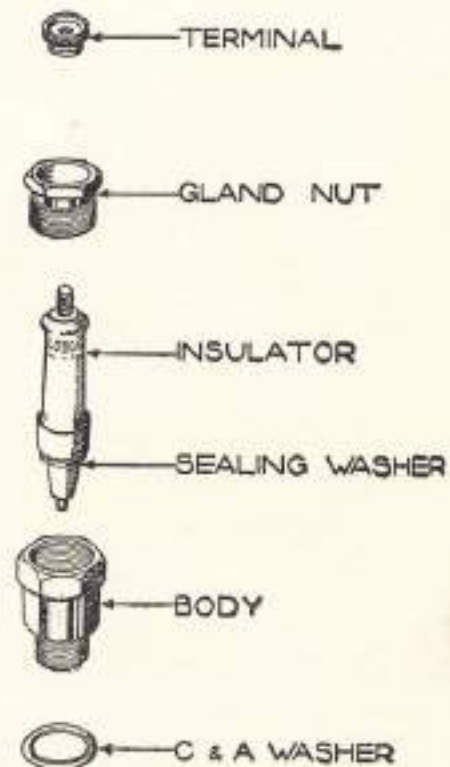

FIG. 33.
3. The plug parts can now be re-assembled as in (Fig. 33) care being taken to see that the internal seating washer between the insulator and the body is correctly positioned and that **all joint faces are scrupulously clean**. The gland nut should then be lightly tightened on the insulator, the nose end of the insulator centralised within the body, and gland nut then finally tightened with